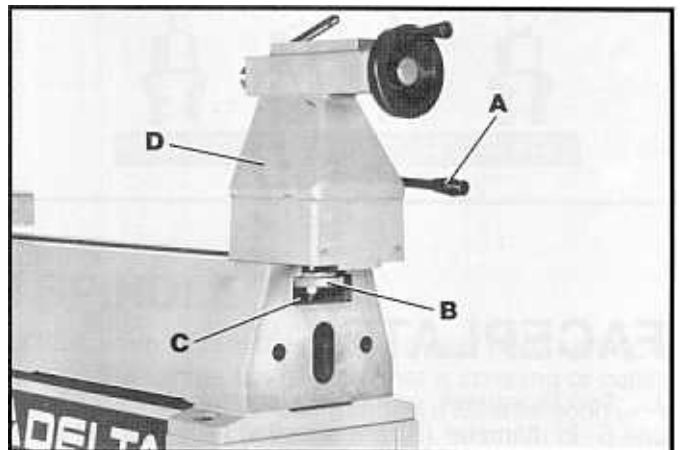

Fig. 23
1. Rotate clamp handle (A) Fig. 23, until clamp (B), is loose and slide clamp (B) into channel (C) of the lathe bed. To lock tailstock (D) in position on lathe bed, rotate clamp handle (A). **NOTE:** Adjustment to the clamping action of the tailstock can be made by tightening or loosening the nut located directly underneath clamp (B).